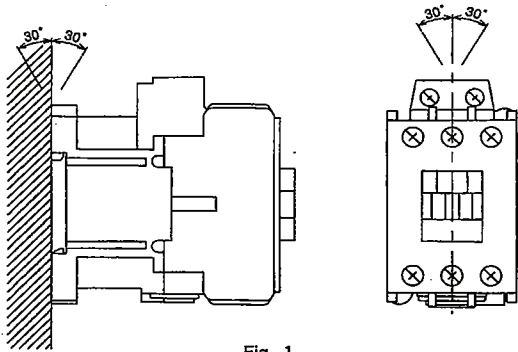

Fig. 1
- Mounting on a vertical surface. The product must not incline more than 30°. (Fig.1)